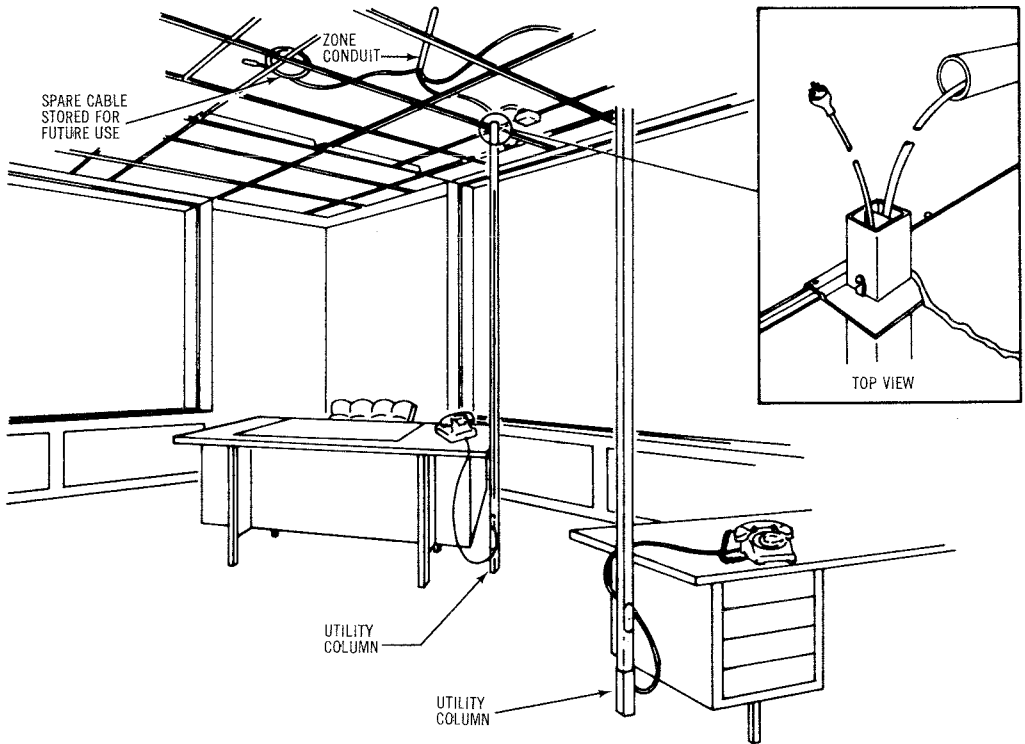

Fig. 13 — Wiring Method With Utility Columns
11.01 A utility column is a post placed between the ceiling and floor in conjunction with the ceiling distribution system as shown in Fig. 13. It is used for the concealment of communications wiring from the ceiling to the desk. It can also be used as an extension of electrical outlets for the same purpose.
11.06 There are several different models of utility columns available to the customer: (Figs. 13 to 15)